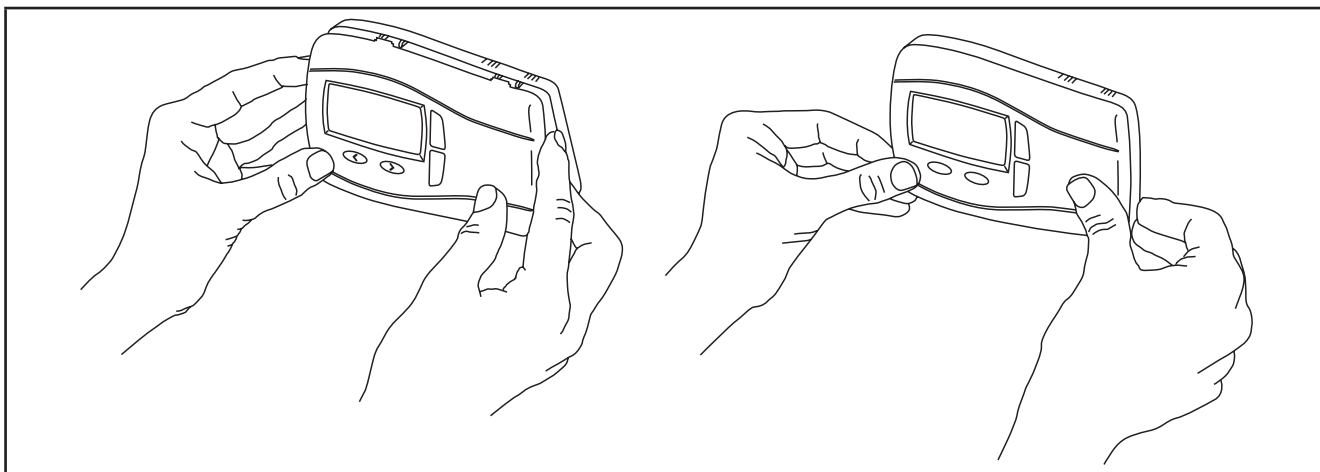

Fig. 13. Closing
8. After having made the connections, close the front panel of the keypad by pressing it with your fingers (see **Fig. 13 on pag. 23**).